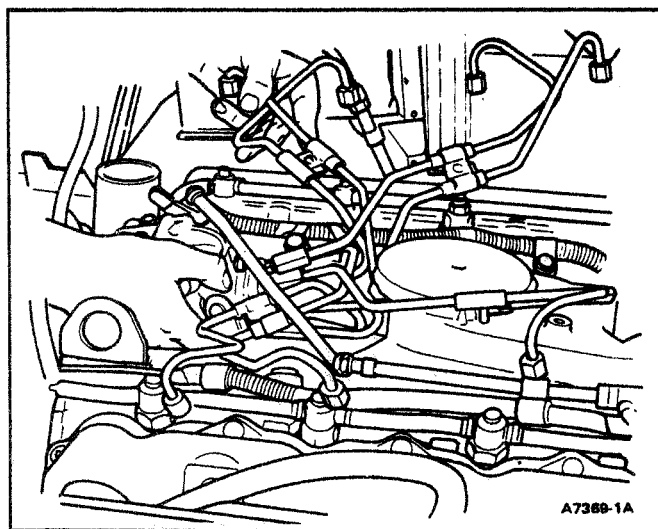

FIG. 51 Injection Pump Removal
20. On F-250—F-350, lift injection pump, with nozzle lines attached, up and out of engine compartment. (Fig. 51).